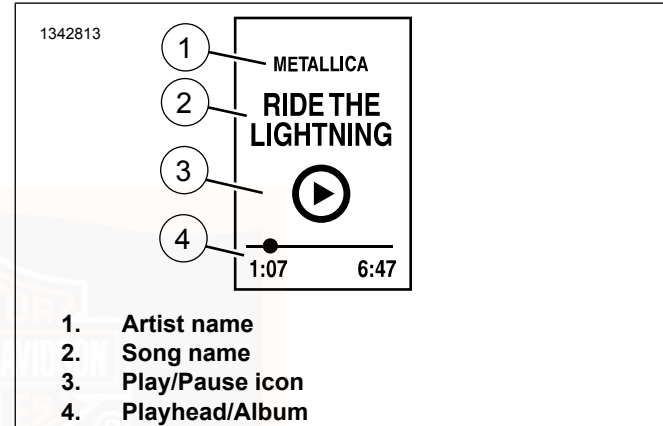

Figure 41. Audio Widget
See Figure 41. The music widget displays music information from a connected device. This information includes artist name (1), Song name (2), play pause icon (3) and either a playhead or album name (4).